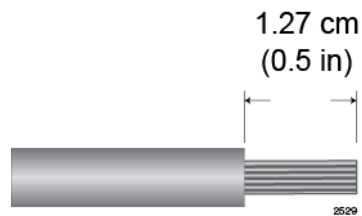

Figure 130. Stripping the Power Wires
1. Prepare adequate lengths of two stranded 8 AWG power wires by stripping them as shown in Figure 130.